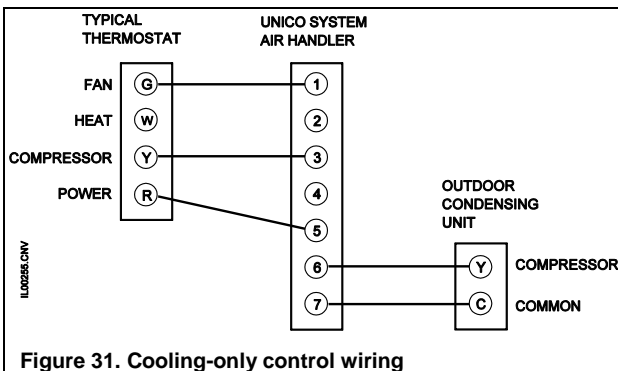

Figure 31. Cooling-only control wiring
- Next, connect the control wiring per figures 31 through 33. For units with electric duct heaters, refer to *Bulletin 30-34*. Match thermostat anticipator settings for combined amperage load of all components, including electric heater contactors, to prevent damage to thermostat.